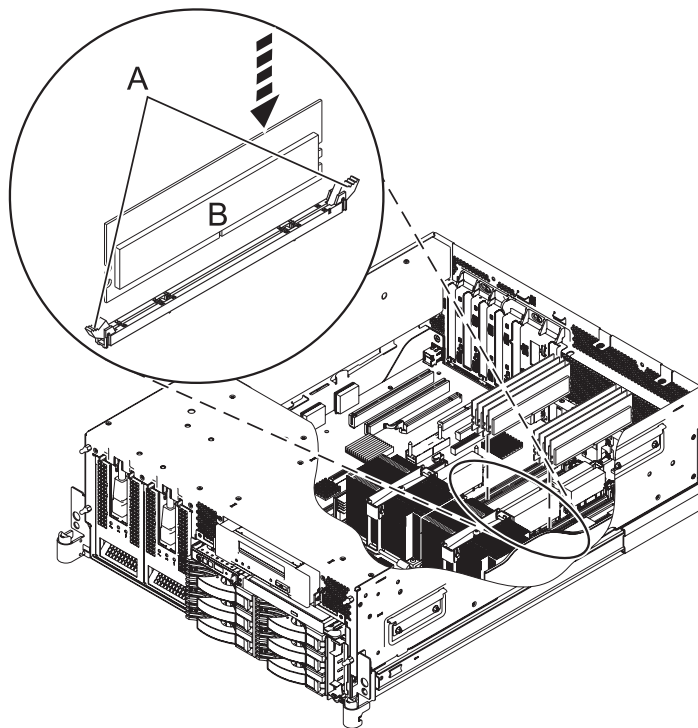

Figure 23. Replacing a memory module
3. Ensure that the connector locking tabs **(A)** are pushed out in the unlocked position, as shown in Figure 23, before installing a new memory module.
6. Secure the memory module **(B)** with the locking tabs **(A)** located at each end of the memory module connector, as shown in Figure 23.